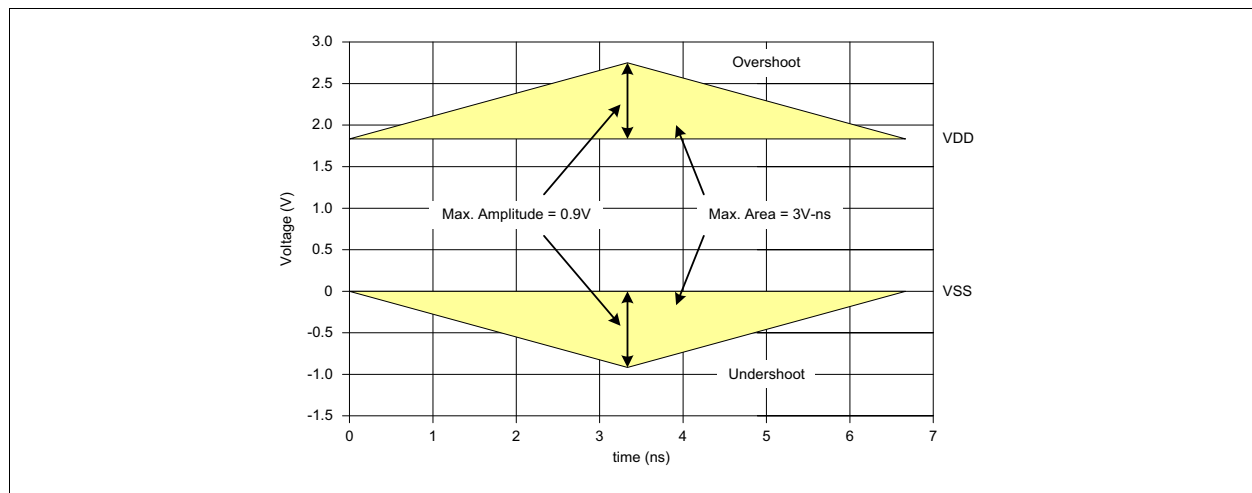

Figure 3 AC Overshoot and Undershoot Definition
2) See Table 13 and Figure 3 for overshoot and undershoot definition.